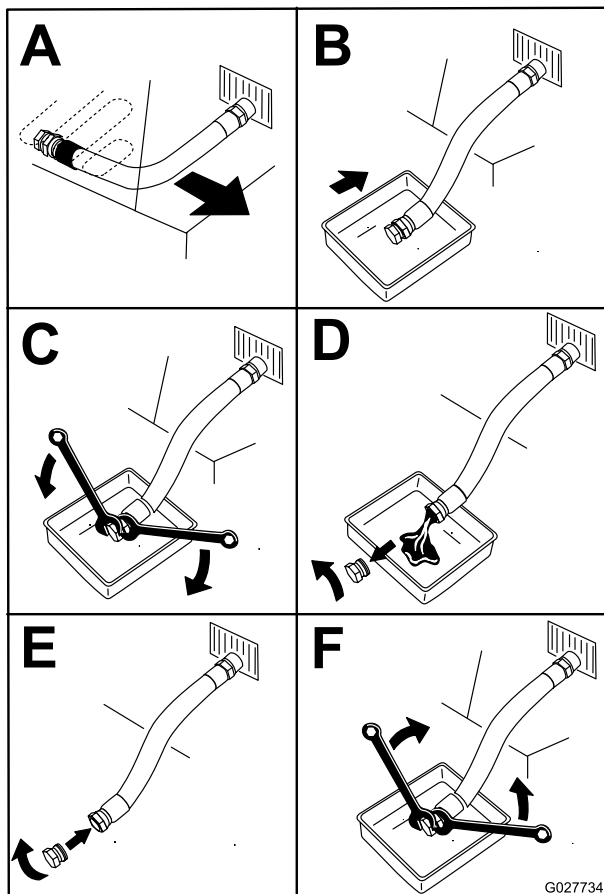

Figure 50
4. Shut off the engine, remove the key, and wait for all moving parts to stop before leaving the operating position (Figure 50).